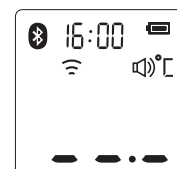

Figure 4
3. Press the *Test Button* to turn on the thermometer, you can take the object temperature after hearing two beep sounds.(see figure 4)